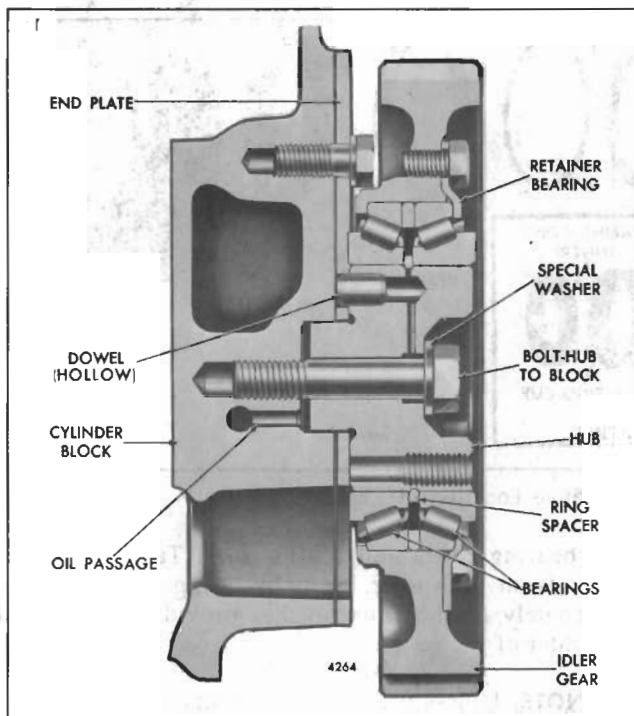

Fig. 1 - Idler Gear Mounting
The idler gear (Fig. 1) is mounted on a double-row, tapered roller bearing, which in turn is supported on a stationary hub. This hub is secured directly to the cylinder block by a bolt which passes through the hub and rear end plate. A dowel in the hub correctly positions the hub and prevents it from rotating.
1. Remove the idler gear hub to cylinder block bolt and special washer and withdraw the assembly from the cylinder block rear end plate (Fig. 1).